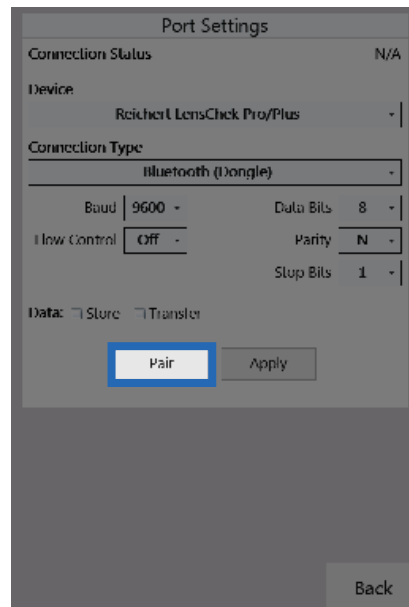

Figure IS-14, Pair Button
10. In the Port Settings panel on the Phoroceptor VRx controller tap **Pair**. Refer to Figure IS-14.